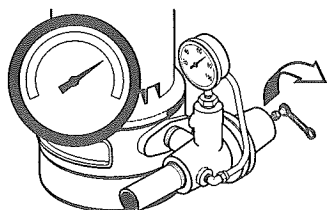

Figure 16A – Open Regulator Valve
4. Once unit has primed and pressure stabilized, slowly open (turn counterclockwise - Figure 16A,